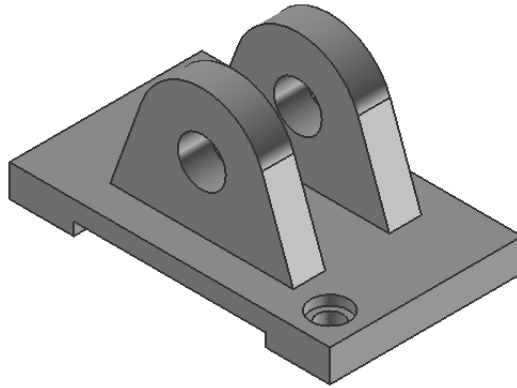

Figure 8-56 The model after creating the hole feature
- i. Create a counterbore hole using the **Hole** tool, refer to Figure 8-56.
6. Again, choose the **Perpendicular** button from the **Positioning** dialog box and from the top face of the base feature, select the edge that measures 60 mm. Enter **10** as the value in the **Current Expression** edit box. Choose the **OK** button. The counterbore hole is created, as shown in Figure 8-56.